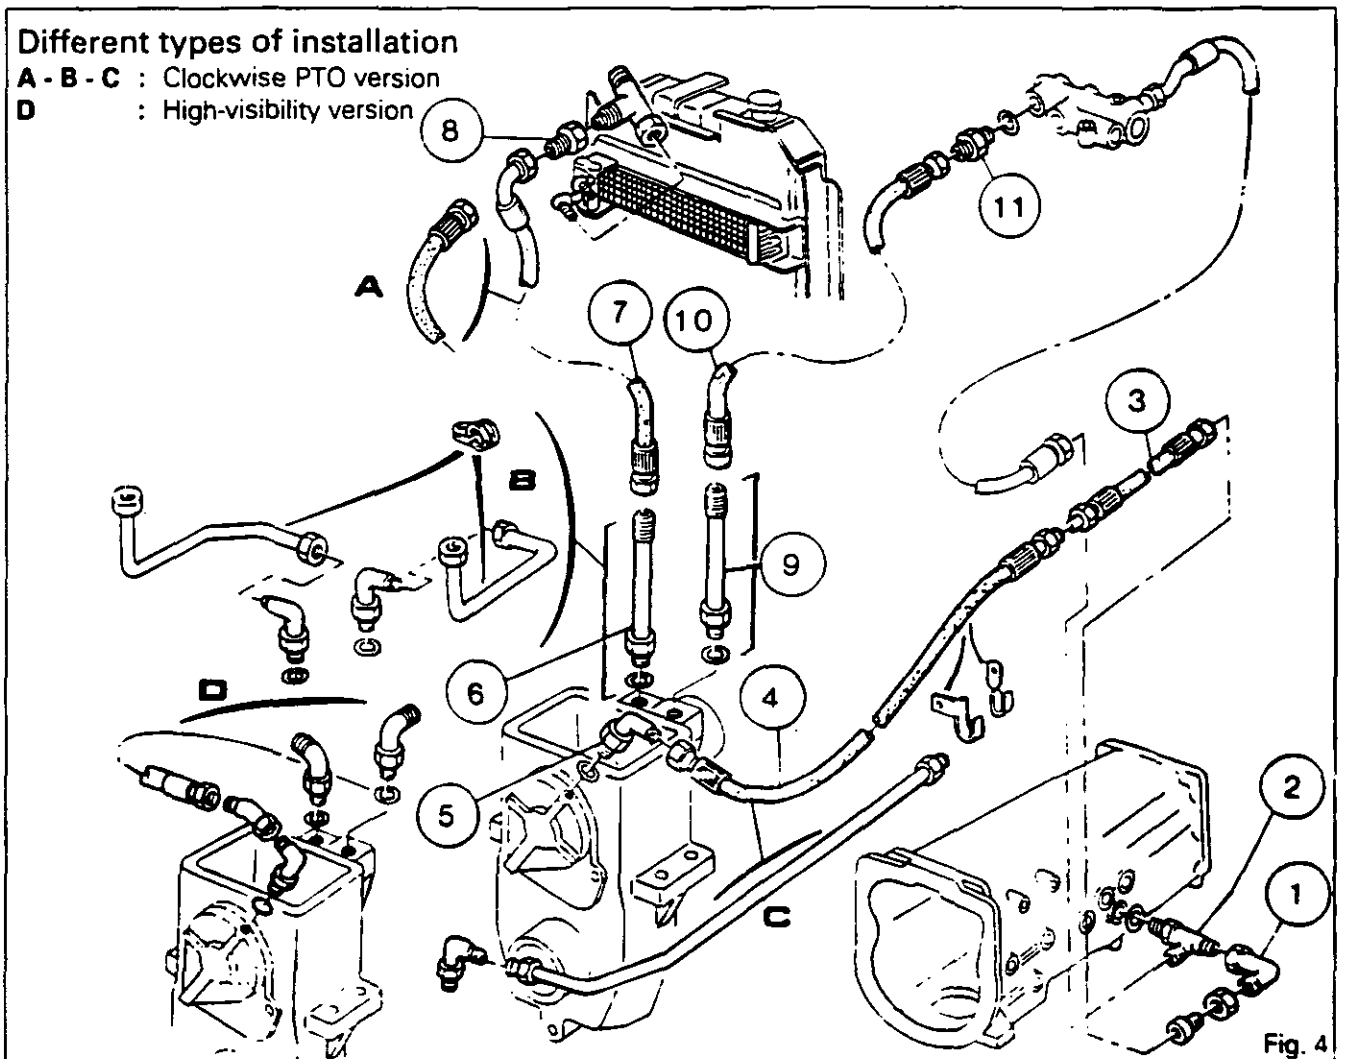
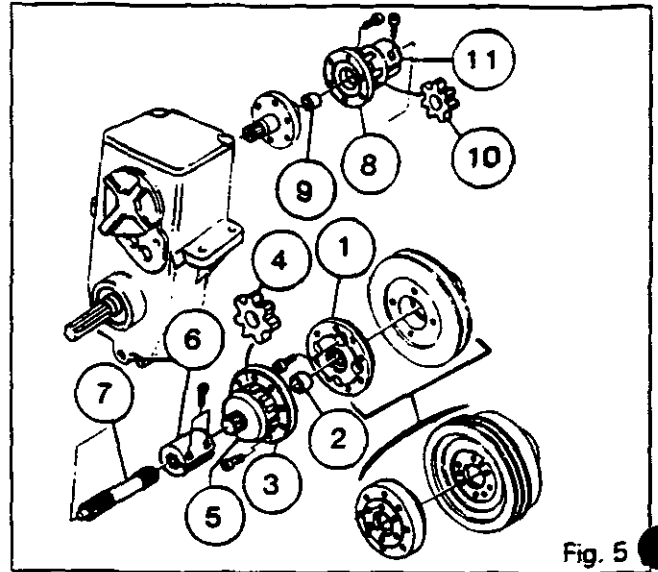

Fig. 4
Fig. 5
16. Place bearing cone (15) in bearing cup (14), push in shaft (32) after positioning clutch (16) and drum (33) assembly in the housing.
17. Put bearing cup (18) and adjusting shim(s) [20] coated with grease, in place.
18. Fit O-ring (21) in the housing groove.
19. Fit bearing retainer (22) with seal (24) and circlip (23). Remove the shaft splines protector.
20. *On tractors with rice field version, grease and place seal (26), with the lip facing bearing retainer (22). Remove the protector.*
21. Fit flange (28) leaving some play relative to the housing.
22. Tighten screw (27) coated with Loctite 241.
24. Put coupler (10) on shaft (32).
**Note: Put short shoulder "E" facing towards shaft (32)(Fig.5).**
**Accessories - Fitting the front PTO****C. Fitting the PTO unit assembly****Coupling sleeve (Fig. 5)****1st section : Engine side**
14. Unscrew the engine pulley, fit the hub (1) with the new bolts supplied with the kit. Tighten the bolts to a torque of:
15. Install the bush (2), coupling (3) (tighten to a torque of 36 - 46 Nm), vibration damper (4) and coupling (5).
16. Assemble the hub (8), bush (9) and shaft (7) (tighten the hub to a torque of 36 - 46 Nm.)
17. Position the vibration damper (10) and coupling (11).
18. Fit the coupling sleeve (6), positioning it away from the end of the shaft (7).
19. Fit the elbow unions on the PTO unit (Fig. 4).
23. Connect up the hose to the oil cooler on the lower outlet. Fit the jet (8) (Fig. 4).